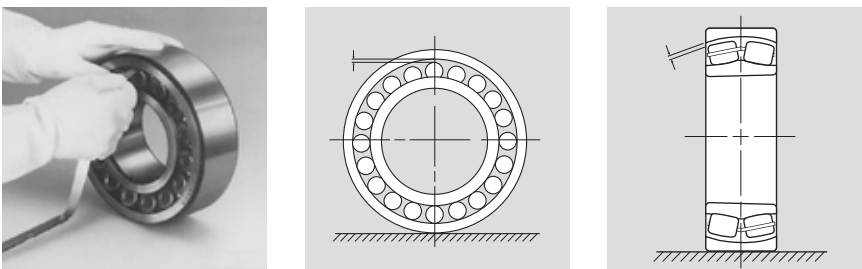

Fig. 1: Checking bearing clearance with bearing on bench.
1. With bearing on bench check clearance using the feeler gauges over the top of the rollers at the top of the bearing as shown in **Fig. 1** and note the clearance.